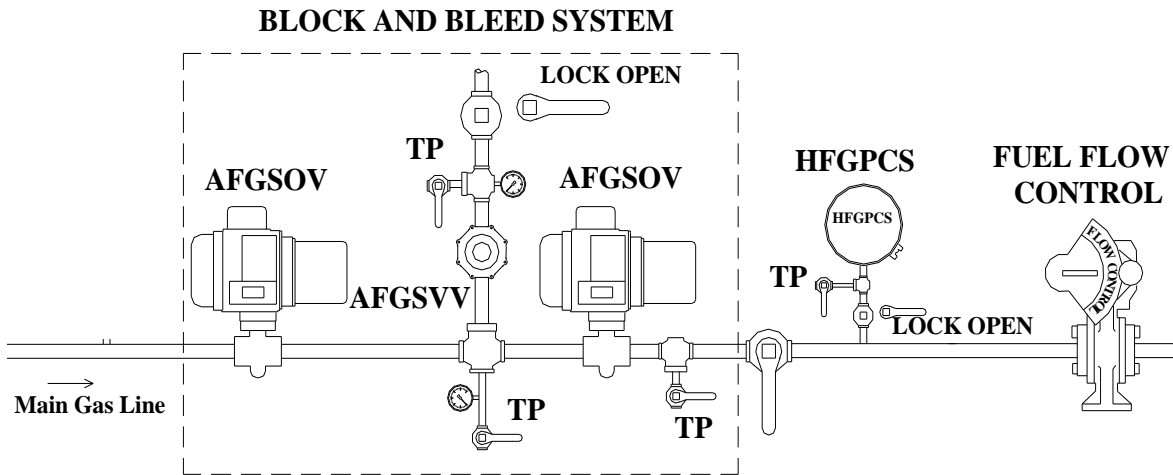

Figure 1.3 Test setup for leak testing the two Automatic Fuel Gas Shut Off Valves and the Automatic Fuel Gas Vent Valve
In order to easily test for leaks in the block valves, a test port (TP) and calibrated pressure gage must be available both in the line between the valves and downstream of the second valve. Also in the case of gas, a lockable manual valve downstream of the solenoid bleed vent valve is required. A port and pressure gage in the line between the solenoid valve and lockable manual valve is also needed as shown in Figure 1.3. Note, there are two test ports (TP) for determining normal operating pressures and one test port (TP) for testing the automatic fuel gas vent valve for leaks. This arrangement is schematically shown for natural gas in Figure 1.3. The arrangement for testing the automatic fuel oil valves is the same with the exception the vent line is absent with its attendant test arrangement as shown in the test procedure for oil leaks in Appendix A.